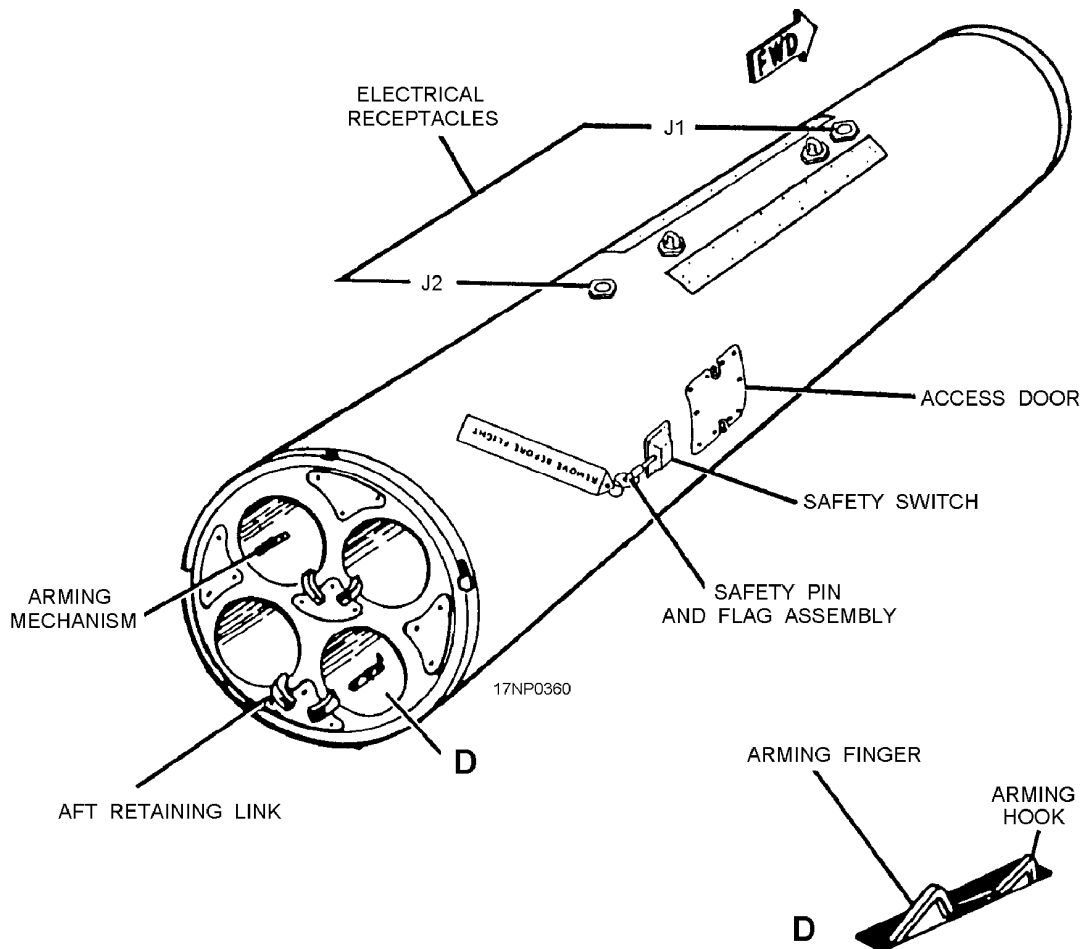

Figure 13-29.—SUU-25F/A.
1. Safety pin and flag installed in safety switch (fig. 13-29).